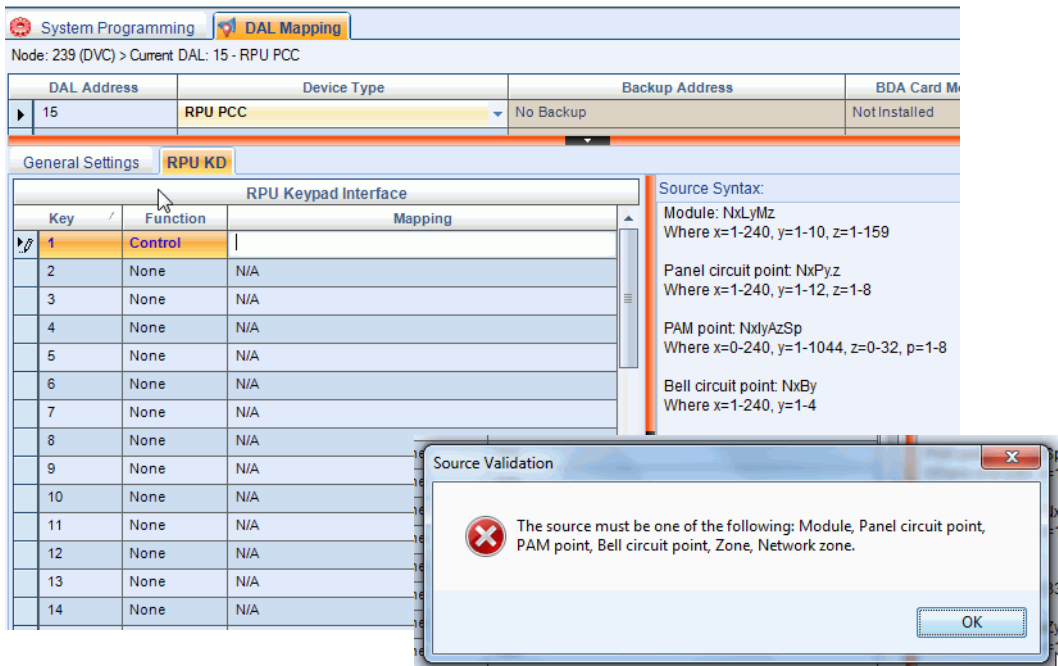

Figure 3.9 DAL Mapping - RPU-KD Keypad Assignment
- **MAPPING** - Enter an address to be controlled, monitored, or disabled as set in the Function field. This must be the address of a specific module, detector, panel circuit point, zone, DAL speaker circuit, or PAM point. VeriFire Tools will validate the mapping’s syntax and source type on entry. Once a Function type is selected, the right side of the screen will display a summary of correct syntax (relevant rules for mapping an appropriate device). The settings will be shared with all the DVC-RPUs connected to the DAL network at the network node address. The syntax for each type of entry is in Table 3.1 below; this is also available on the right side of the VeriFire Tools screen as shown in Figure 3.9.